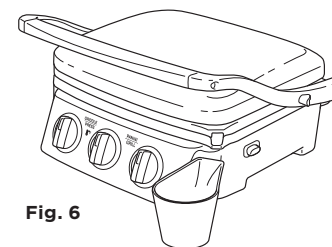

Fig. 6
- Use one drain collection cup. (Fig. 6)